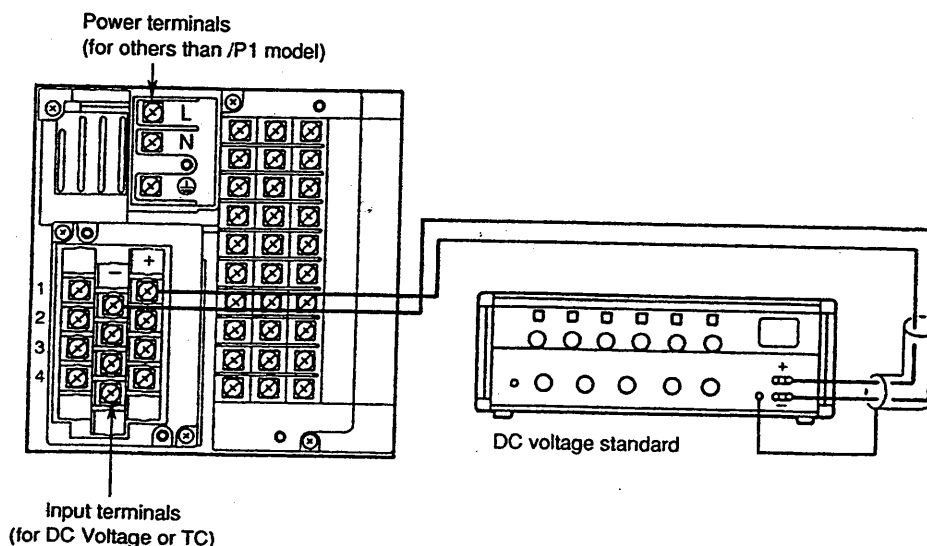

Figure 4.18 DC Voltage Signal for Pen Model (same as Dot-Printing Model)
- (1) Connect the instruments to the recorder; connecting the terminals is shown in Figure 4.18 to 4.20. Give enough warm-up time to the instruments (more than 30 minutes for the recorder).
- (2) Check that the ambient temperature and humidity are within the standard operating conditions.